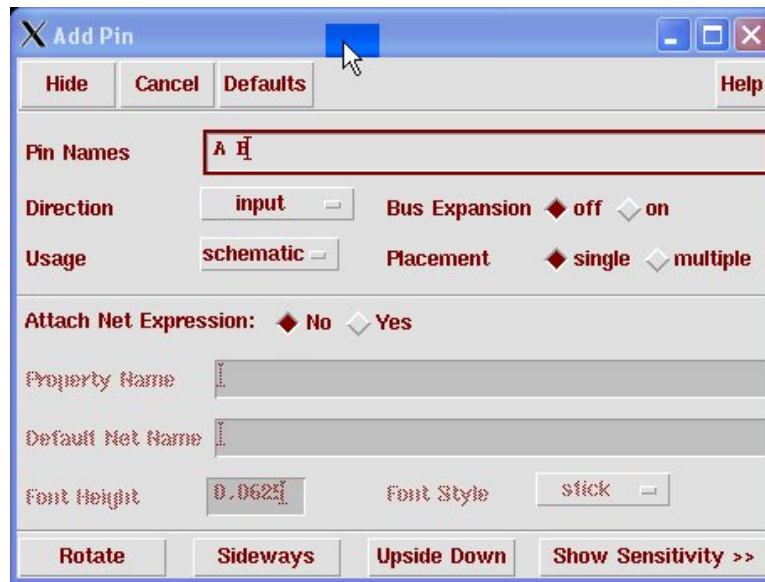

Figure 3.6: Add Pin dialog box
6. Adding Pins: Pins are connections that enter or leave this schematic sheet. They are called pins because they will correspond to pins on the symbol view of this schematic. Pins can be added by going to **Add** → **Pin** from the menu, or pressing `p`, or selecting the "Add Pin" widget from the left side of the Composer window to get the **Add Pin** dialog box (Figure 3.6). For example, to put two input pins A and B, we can fill in the Pin Names field as A B (with a space) and the Direction list as input.